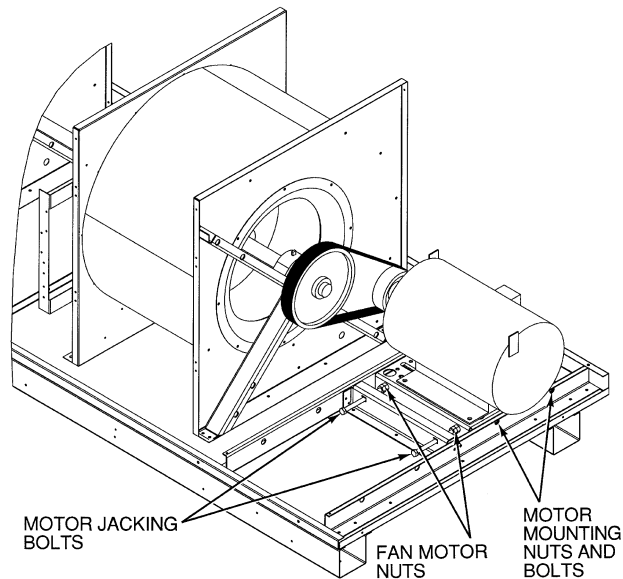

Fig. 34 — Belt Tension Adjustment
2. Loosen motor mounting nuts and bolts. See Fig. 34.